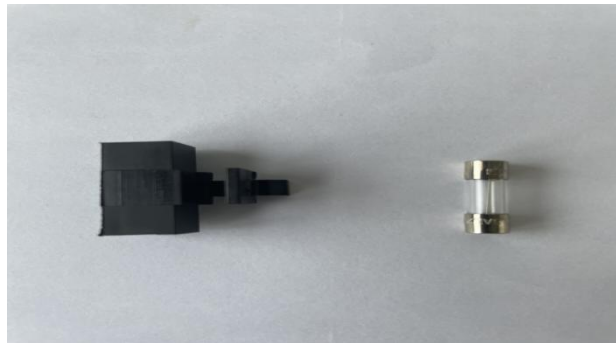

Figure 9-3 Take Fuse Tube
b. Please take off the original fuse and replace it with a new one, as shown in figure 9-3.